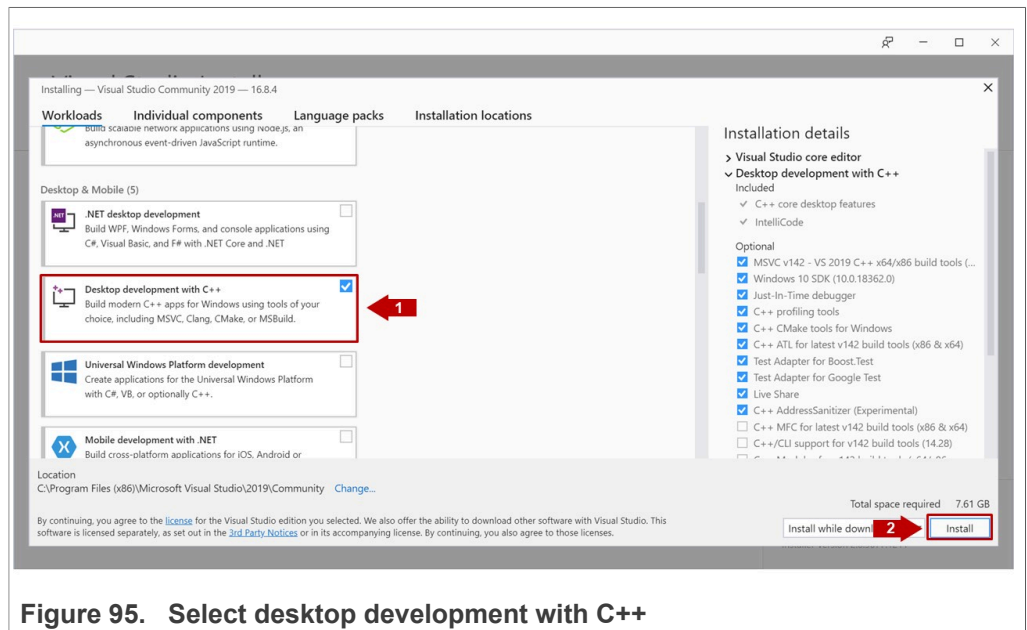

Figure 95. Select desktop development with C++
- 4. As part of the Visual Studio setup, it is mandatory that you enable the installation of **Desktop development with C++**. Select (1) **Desktop development with C++** and (2) click install as shown in Figure 95: